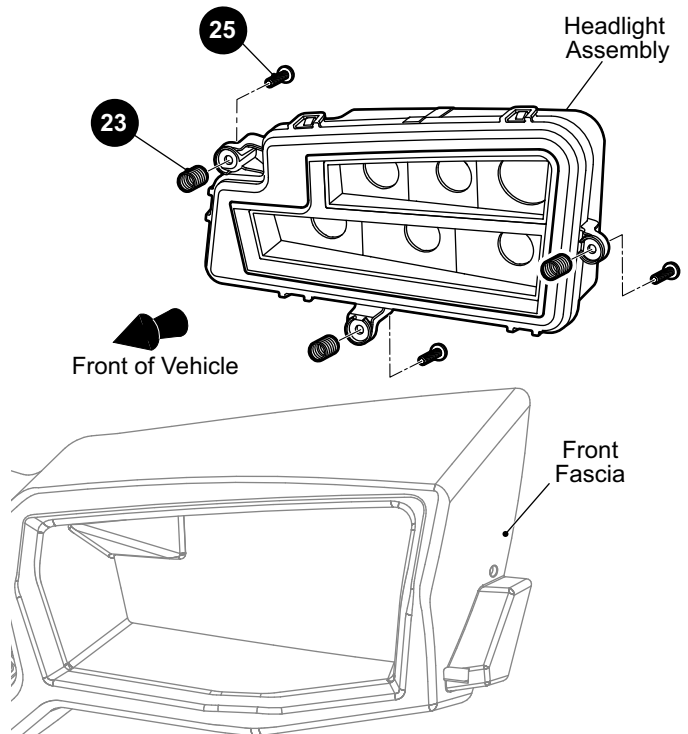
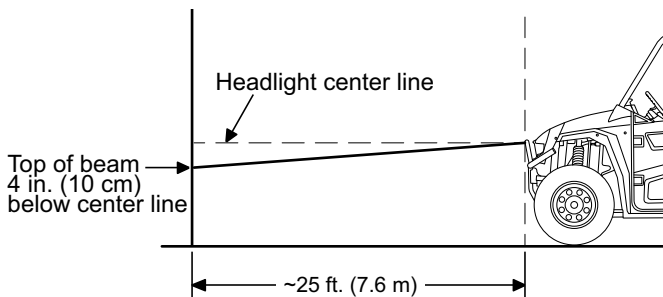

Fig. 2 Headlight Bulb Replacement
Fig. 3 Headlight Beam Adjustment
2. Remove the three adjustment screws (25) and springs (23) that secure the headlight assembly to the vehicle (Ref. Fig. 2).
1. Park the vehicle on a flat surface adjacent to a vertical wall. The front of the vehicle should be approximately 25 ft. (7.6 m) from the wall (Ref. Fig. 3).
8. If a headlight needs to be adjusted, remove three plastic rivets (25) and the rear cover (23).
9. Locate the three adjustment screws (25) in the back of the headlight (See Fig. 2). Turn the screws to adjust vertically and horizontally.
11. Replace cover (23) and secure with plastic rivets (25).